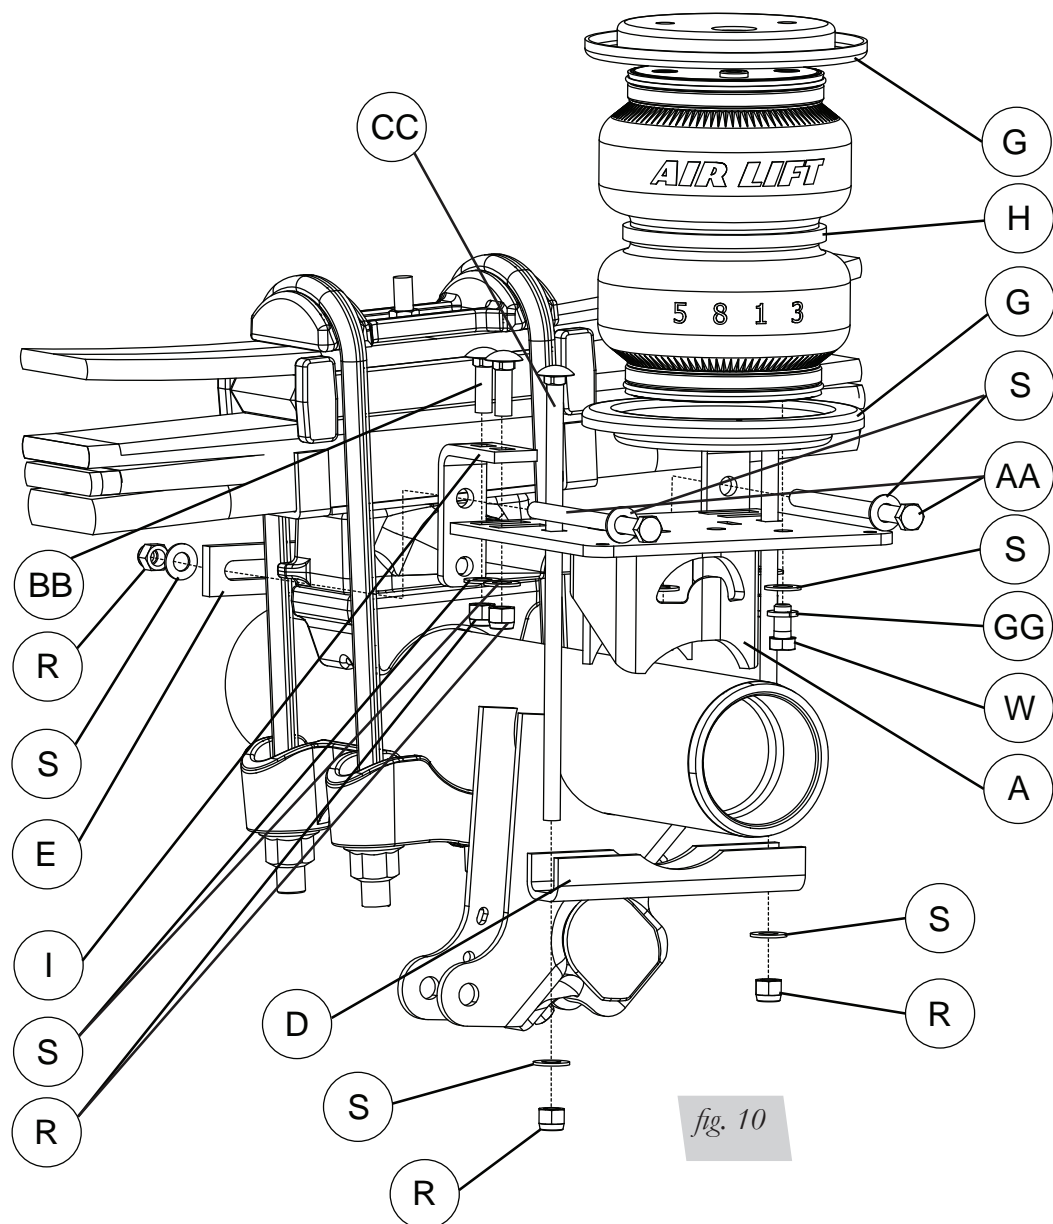

fig. 10
1. Insert a long 3/8" bolt (AA) and flat washer (S) through the top round hole of the four hole locating bracket (I) (fig. 10).
2. Attach the four hole locating bracket (I) on the top of the lower bracket and through the slots, with two 3/8" carriage bolts (BB), flat washers (S) and nylon lock nuts (R) (fig. 10). One goes forward and one goes behind the axle on the leaf spring side. Leave loose at this time.
4. Using the long 3/8" bolt (AA) and flat washer (S) previously installed on the four hole locating bracket, insert them into the spring clamp bar (E) on the opposite side of the leaf spring assembly (fig. 10). Cap with 3/8" flat washer (S) and nyloc nut (R). Leave loose at this time.
5. Insert a long carriage bolt (CC) through the remaining square hole in the lower bracket (forward of the axle) opposite of the one previously installed. Set the clamp bar (D) over the two carriage bolts and cap with two 3/8" flat washers (S) and two nyloc nuts (R).